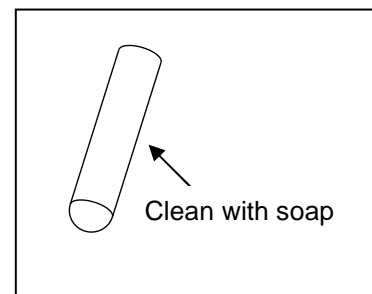

Fig. 15
11. Clean the exterior of the UV glass tube with warm soapy water. Fig. 15